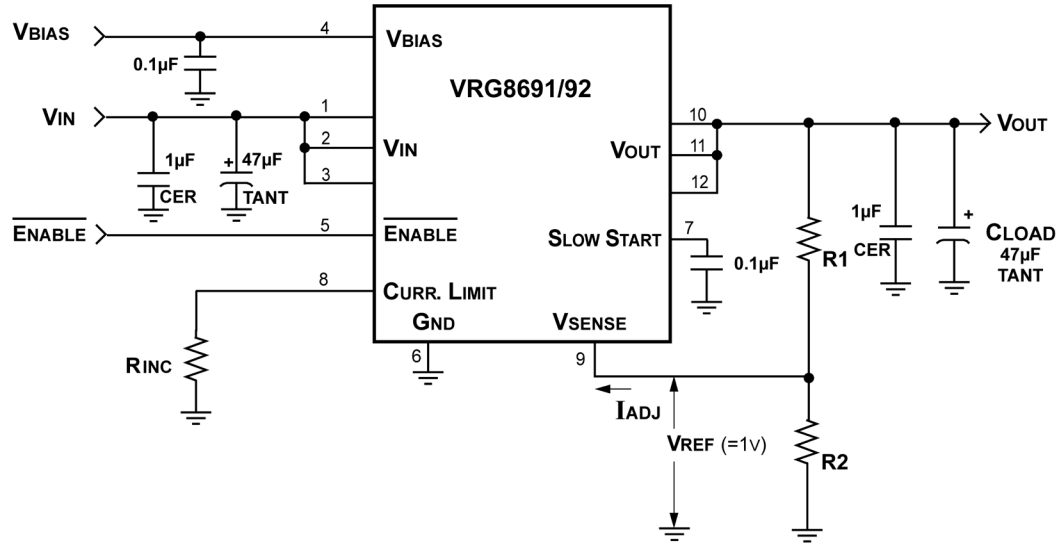

Figure 3 – Increasing the Current Limit (I_{CL})
- 2) Current Limit is adjustable as shown in Application Note 2, Figures 3 and 4.